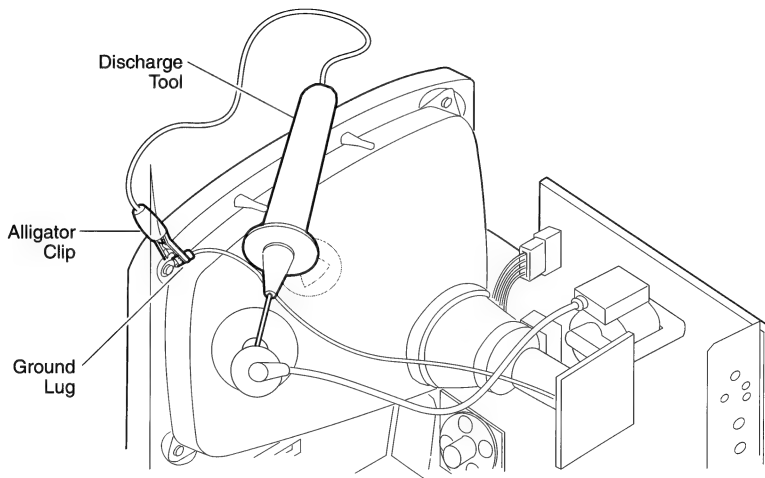

Figure 2 Discharging the CRT
▲ Warning **Discharge the anode to the metal ground lug (see Figure 2). Failure to do so may damage the logic board.**
2. Attach the alligator clip on the CRT discharge tool to the metal part of the ground lug (see Figure 2).